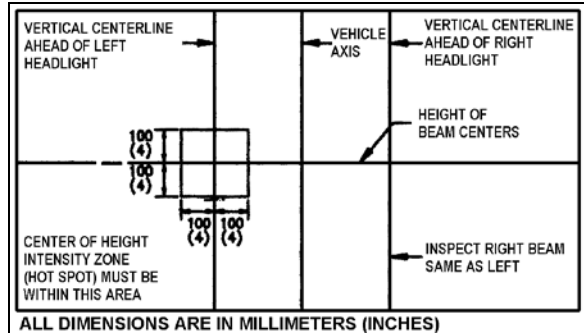

FIGURE 36: AIM INSPECTION LIMITS FOR UPPER-BEAM HEADLIGHTS 06505
7. The inspection limits for high-beam headlights shall be with the center of the high-intensity zone from 10 cm (4 in) up to 10 cm (4 in) down; and, from 10 cm (4 in) left to 10 cm (4 in) right on a screen at 7.6 m (25 ft) (Figure 36).